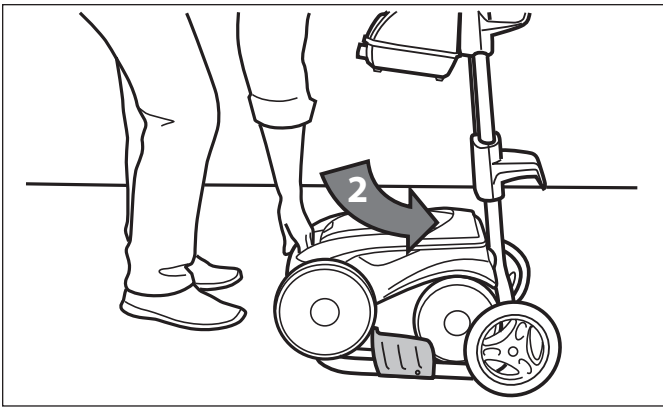

Figure 29. Roll Cleaner onto Place on the Caddy
- Roll the unit into place onto the caddy. Refer to Figure 29.